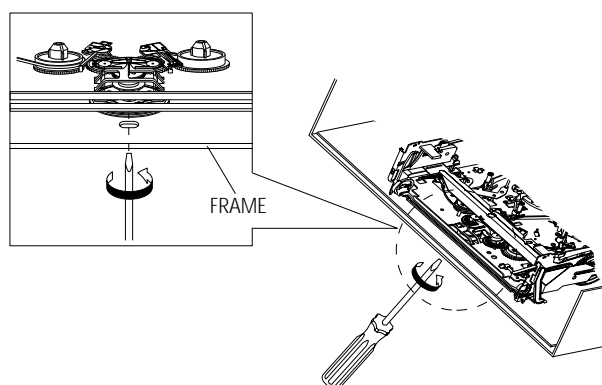

Fig. 4-39
- 2) When Slider S,T are approached in the position of unloading, rotate holder Clutch counterclockwise after inserting screw driver in the hole of frame's bottom in order to wind the unwinded tape. (Refer to Fig. 4-39)